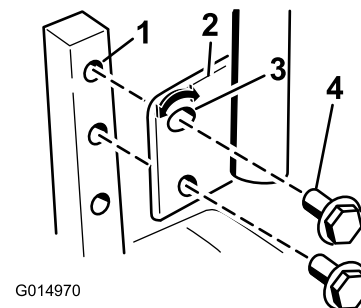

Figure 23
1. Remove the 2 bolts holding the control lever to the control-arm shaft (Figure 23).
3. Secure the lever with the 2 bolts (Figure 23).
2. Loosen the lower bolt just enough to pivot the control lever fore or aft (Figure 23). Tighten both bolts to secure the control in the new position.